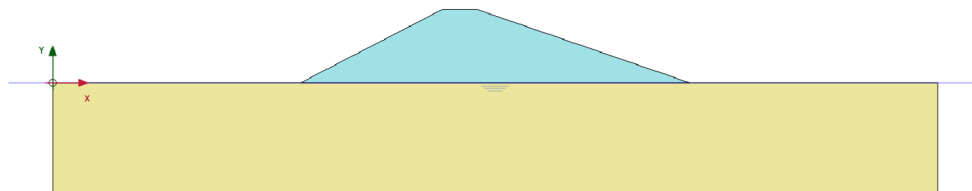

Figure 2-6: Configuration of phase 2
- 3 Finally, activate the embankment. The model for phase 2 is shown in Figure 2-6 \(p. 45\).